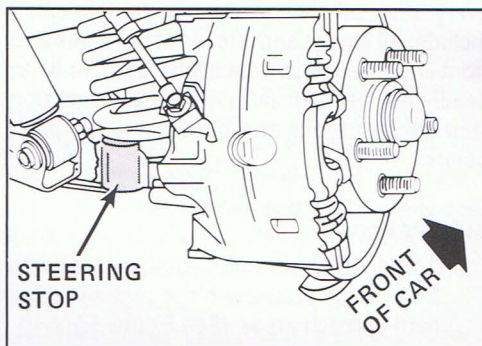

Figure 2 - Front suspension (passenger's side)
3. Apply a small quantity of lubricant to the metal steering stops. See Figure 2.